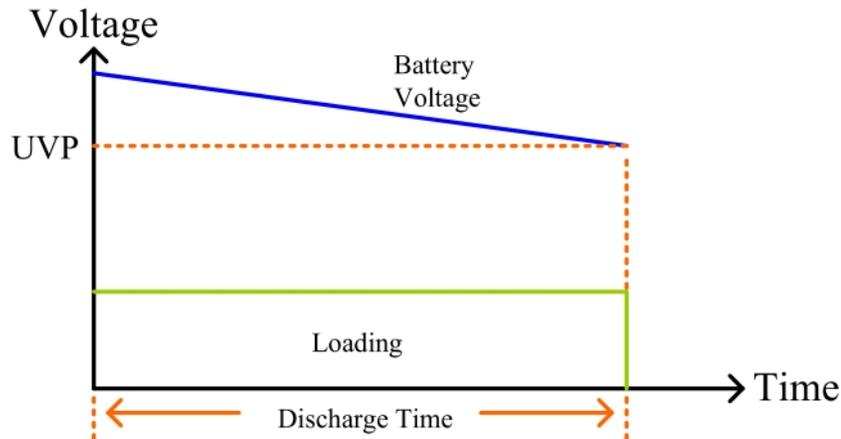

Fig 5-16 TYPE 1 Battery Discharge Figure
When testing loads on of Constant current (CC) mode or Constant Power (CP), When battery voltage is less than UVP (under voltage protect) setting values, The LED is off to indicate Load off status, and displays the total discharge stored energy of the AH as fig 5-16 shows.